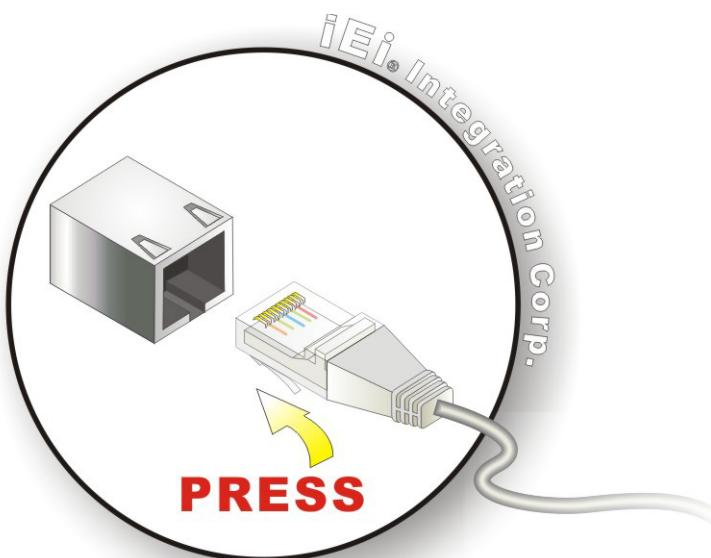

Figure 3-11: LAN Connection
Step 2: Align the connectors. Align the RJ-45 connector on the LAN cable with one of the RJ-45 connectors on the TANK-871-Q170 series. See **Figure 3-11**.